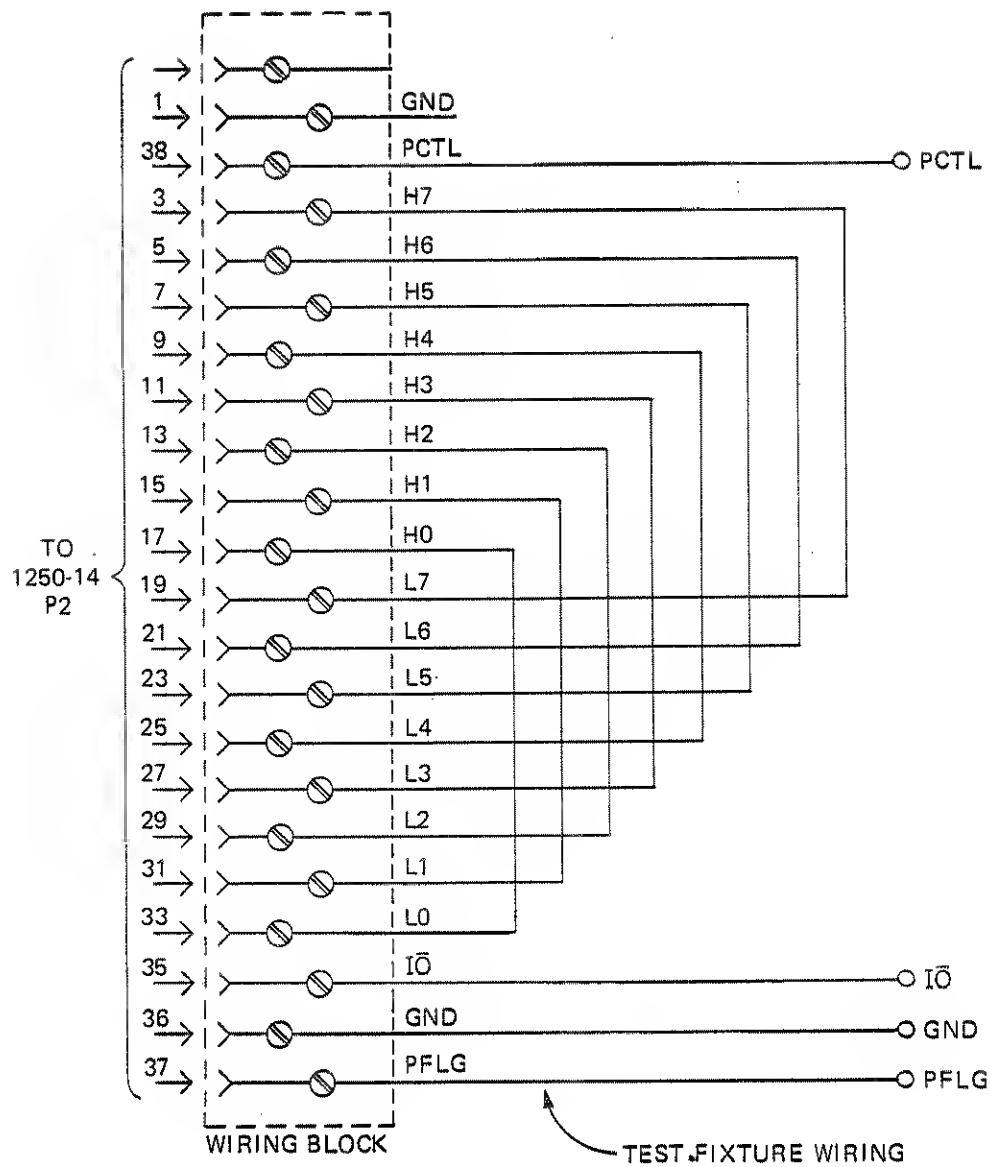

Figure 4.1 - 1250-14 Test Configuration
4.4.5.1 The 1250-14 Digital Input/Output module consists of 16 bidirectional data lines and 3 control lines. The test fixture is shown in Figure 4.1 and the test procedure for this module includes the following: